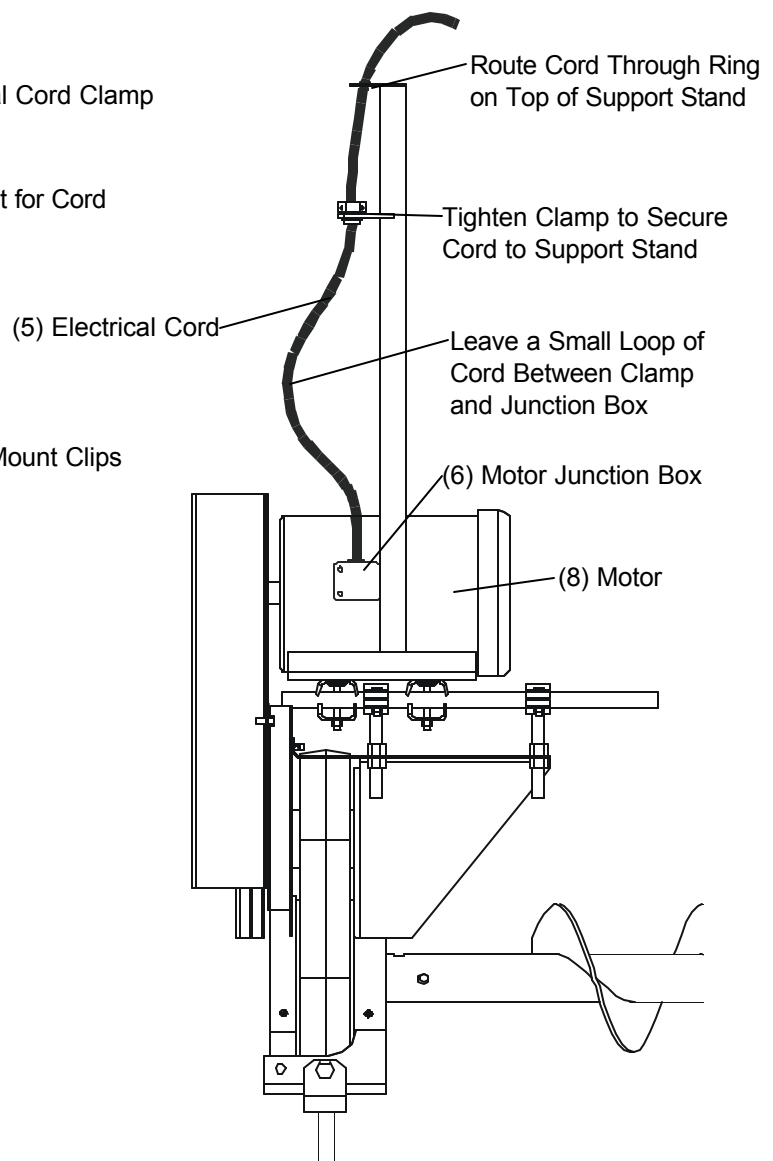

FIG. 5
3. Route the electrical cord (5) from the electrical junction box (6) through the electrical cord clamp (3) on the support stand (1) then through the ring on the top of the support stand. (See Fig. 5)
4. Leave a small a small loop of electrical cord (5) between the cord clamp (3) on the support stand (1) and the electrical junction box (6) on the outside of the motor (8). Tighten the clamp on the electrical cord clamp to secure the cord to the support stand. (See Fig. 5)